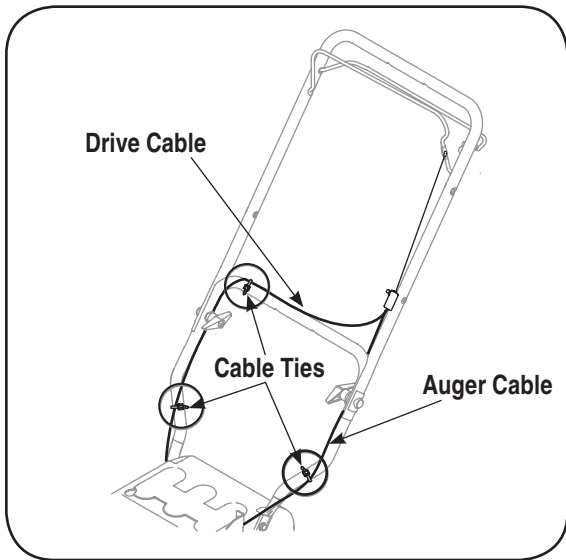

Figure 4
2. Slide one of the loosely fitted cable ties from the right side of the lower handle up to the cross member of the lower handle. Leave the second cable tie in place on the right side of the lower handle. See Figure 4. for reference.
NOTE: Make sure that the drive cable is routed parallel to the left upper handle, then across the top of the lower handle and finally parallel to the right lower handle. See Figure 4.
6. Three cable ties have been used to loosely tie the two control cables to the lower handle. Two of these cable ties are on each arm, and third on the top cross bar of the lower handle. Tighten these cable ties to secure the cable to the lower handle. See Figure 4.